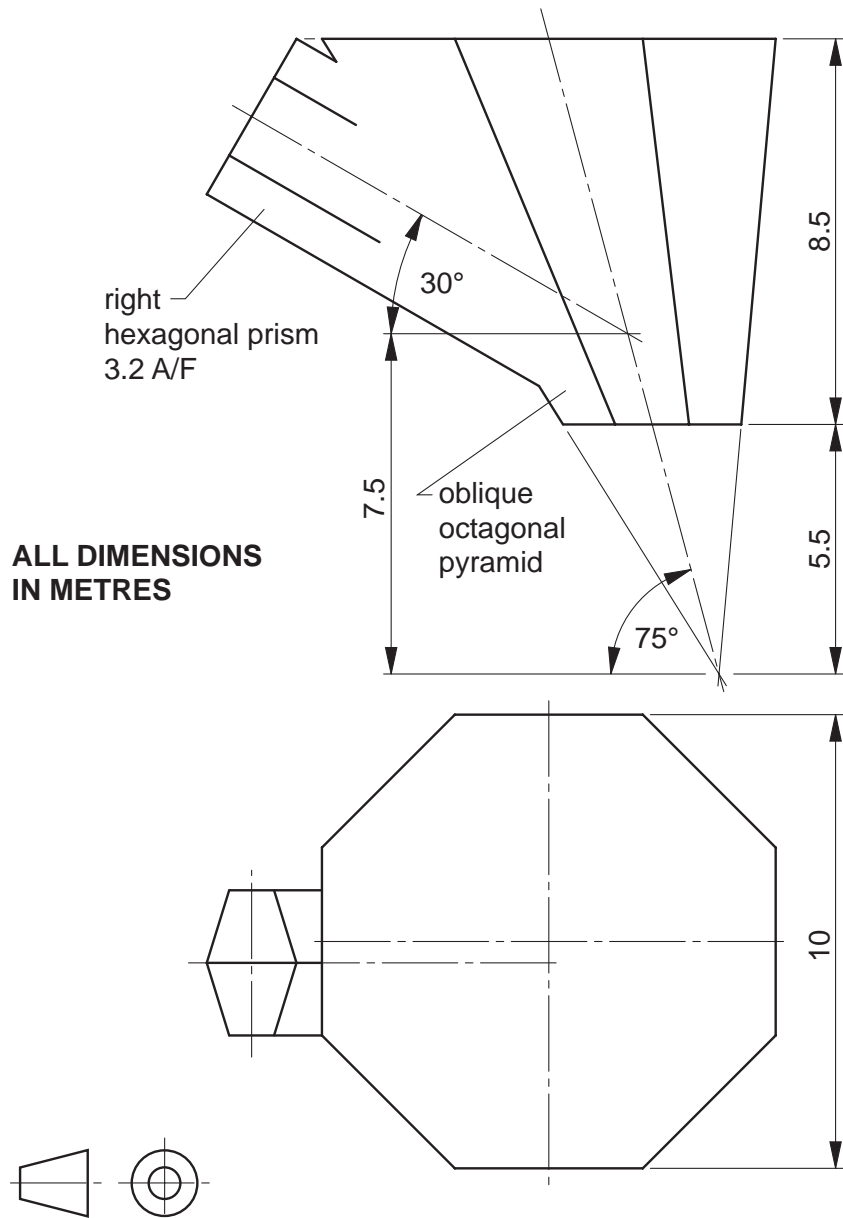

Fig. 6
- 6 Fig. 6 shows incomplete orthographic views of a chute for a grain storage silo. Both parts of the chute are hollow, open at both ends and constructed from thin sheet metal.